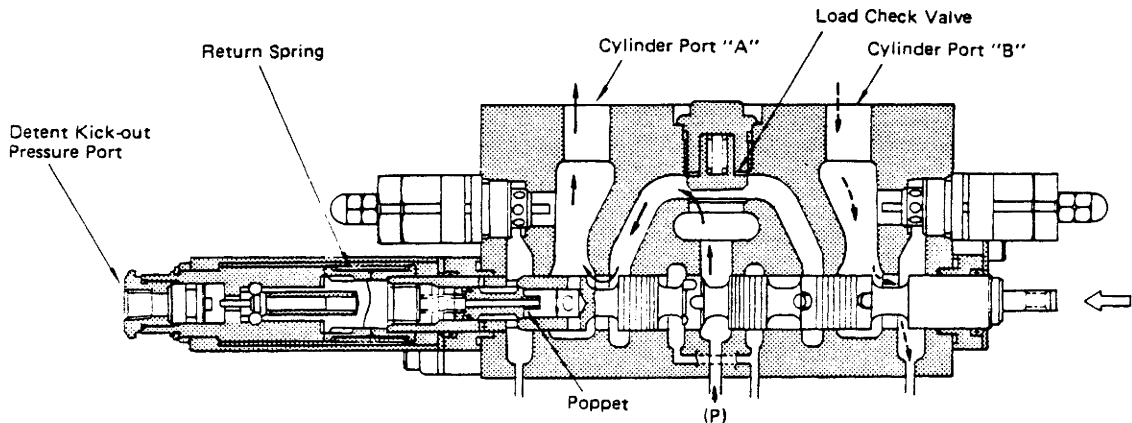

Fig. 3-2
(1) Figs. 3-2 and 3-3 show the operation of spool (1) for the bucket.
a) Fig. 3-2 shows the spool as it has been shifted in. When the bypass line has been closed, and the oil from the pump port pushes up the load check valve to flow into cylinder port "A."
The spool is kept in the position as shown in Fig. 3-2 by the detent mechanism. When the detent is released manually or by pressurizing the kick-out pressure port, the spool is returned to the neutral position by the return spring.